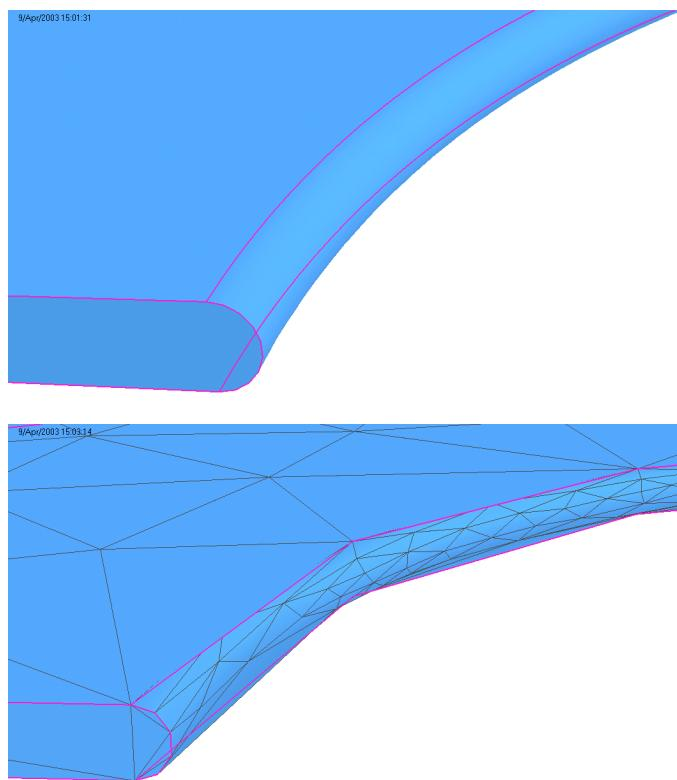

Figure 3.4 The top picture shows a curved blended edge on a thin plate. The surface mesh for this detail is shown in the lower picture.
- Pay particular attention to geometric details on the surface of the cell that failed to mesh. A common cause of problems is a detail with a tight curvature, attached to an adjoining face by a curved edge, shown in Figure 3.4.